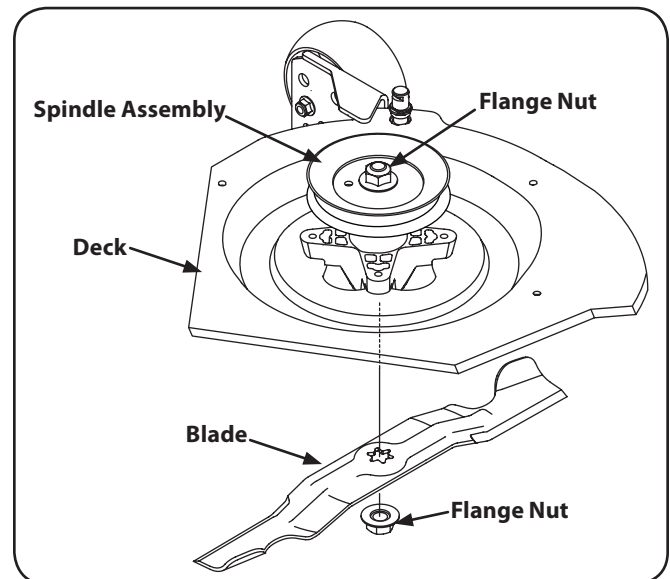

Figure 7-13
- Use a $1\frac{5}{16}$ " wrench to hold the flange nut on top of the spindle assembly and using another $1\frac{5}{16}$ " wrench on the flange nut securing the blade the blade, remove the blade. See Figure 7-13.